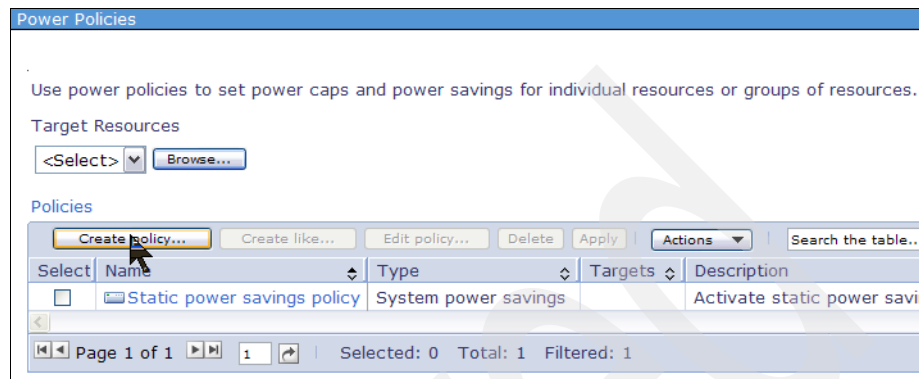

Figure 7-38 Creating a system power capping policy - 2
2. The Power Policies display lists all the policies that you have created. The example shown in Figure 7-38 shows the policy created previously in “Creating a system power savings policy” on page 327. Click **Create policy**.